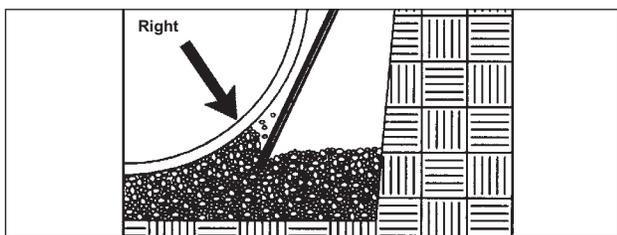
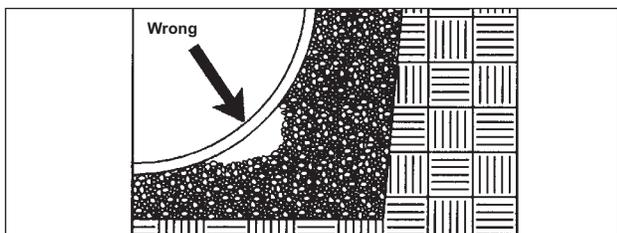

FIGURE 8-1
FIGURE 8-2
8.2.8. Place one 12-inch lift of approved backfill material evenly around the tank. From the edge of the hole or the top of an adjacent tank, push the backfill in place by using a nonmetal probe long enough to reach beneath the tank. Work the backfill material under the tank body and domes so the tank is fully supported – that is, so there are no voids under the tank. (See FIGURE 8-1 and FIGURE 8-2.)